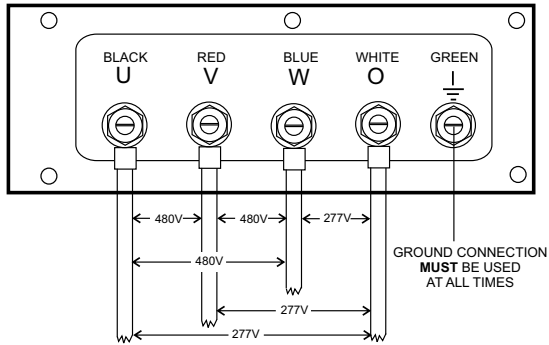

Figure 18. UVWO Terminal Lugs 3Ø-480V Connections
2. Connect the load wires to the UVWO terminals as shown in Figure 18.